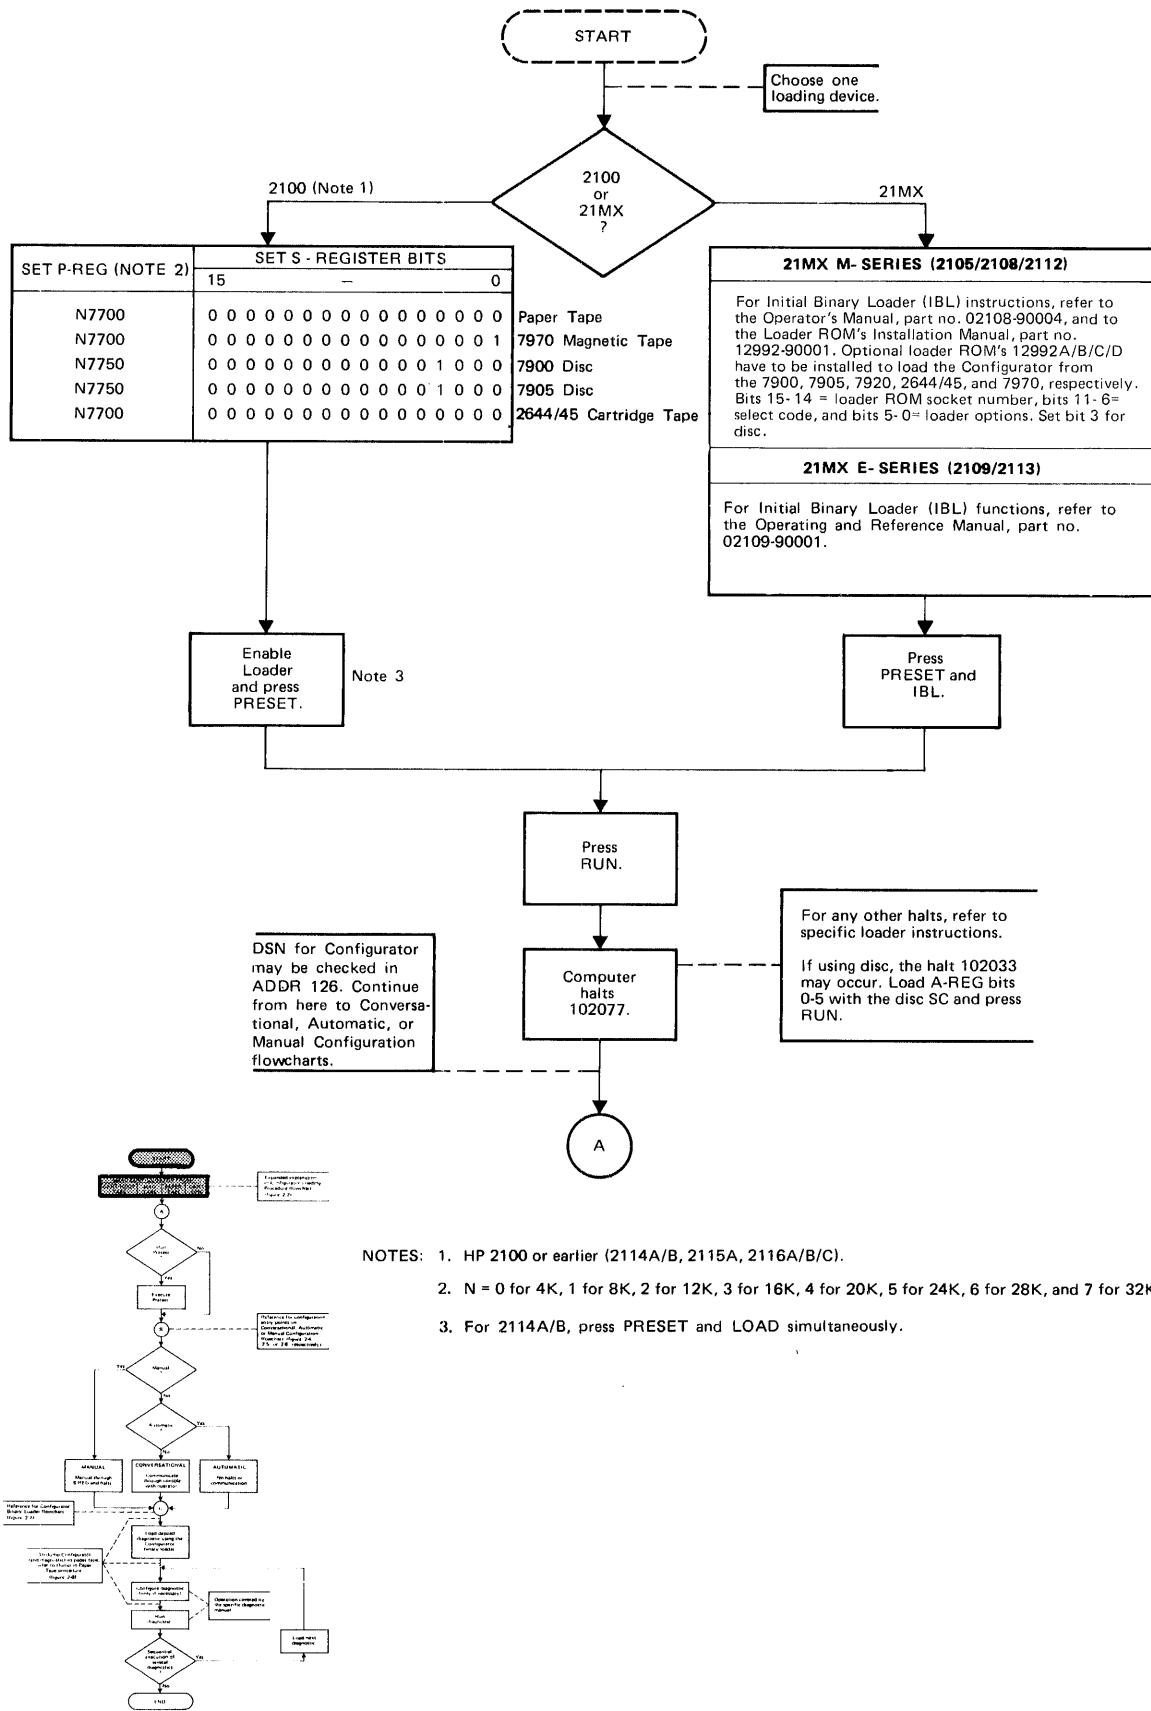

Figure 2-2. Configurator Loading Procedure Flowchart
1. LOAD THE CONFIGURATOR PROGRAM (figure 2-2).
Figure 2-2 is the flowchart for loading the Configurator. Paragraph 2-10 provides information for loading diagnostics after the Configurator is loaded and configured.